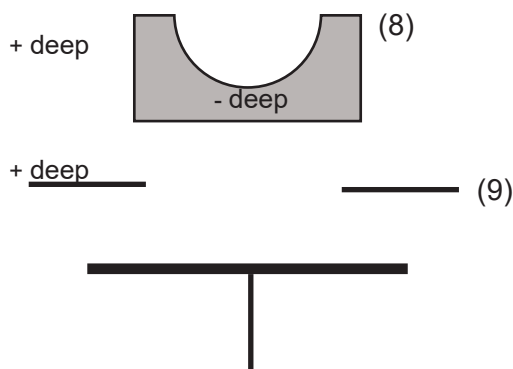

Fig. 20.1
Again, for a better visualization of the phenomenon, insert the two barriers (9) between the source and the lens, as shown in figure 20.1.